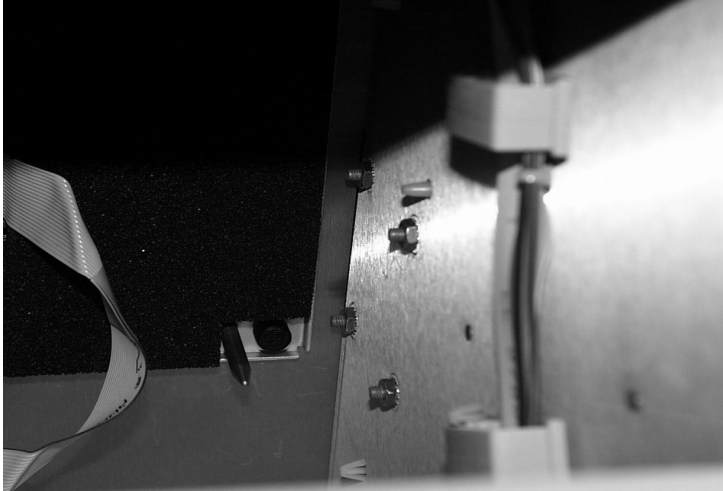

Figure 32 - Motor Removal
6. Loosen the four nuts found inside the right side of the tunnel beneath the fan (Figure 32)
The main power transformer is mounted to the bottom chassis in the right electronics compartment. To replace the main transformer, follow the steps below and refer to Figures 32, 33, and 34.